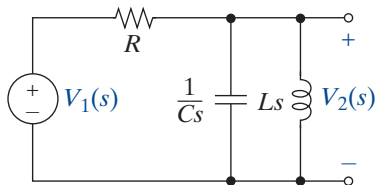

FIGURE P11-5
- 11-5 Find the driving point impedance seen by the voltage source in Figure P11-5 and the voltage transfer function $T_V(s) = V_2(s)/V_1(s)$.